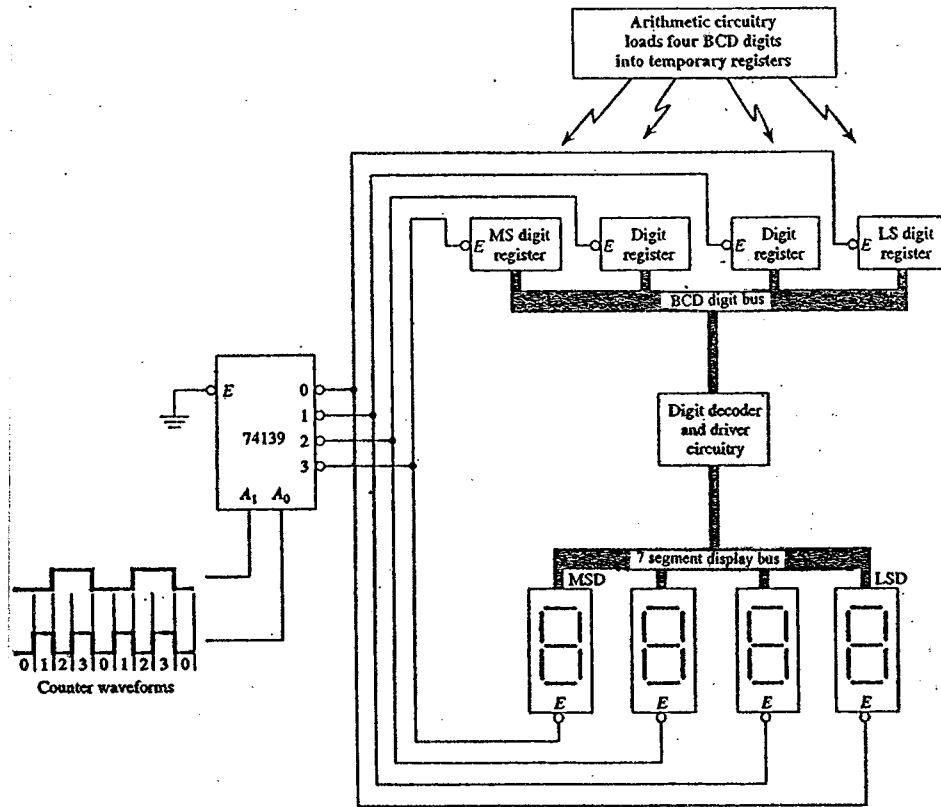

Figure 2
- (c) What are the output levels at $\bar{0}$, $\bar{1}$, $\bar{2}$ and $\bar{3}$ of the 74139 demultiplexer in Figure 2 when the circuit is displaying the number 3_{10} in the Least Significant Digit (LSD) of the 7-segment display?